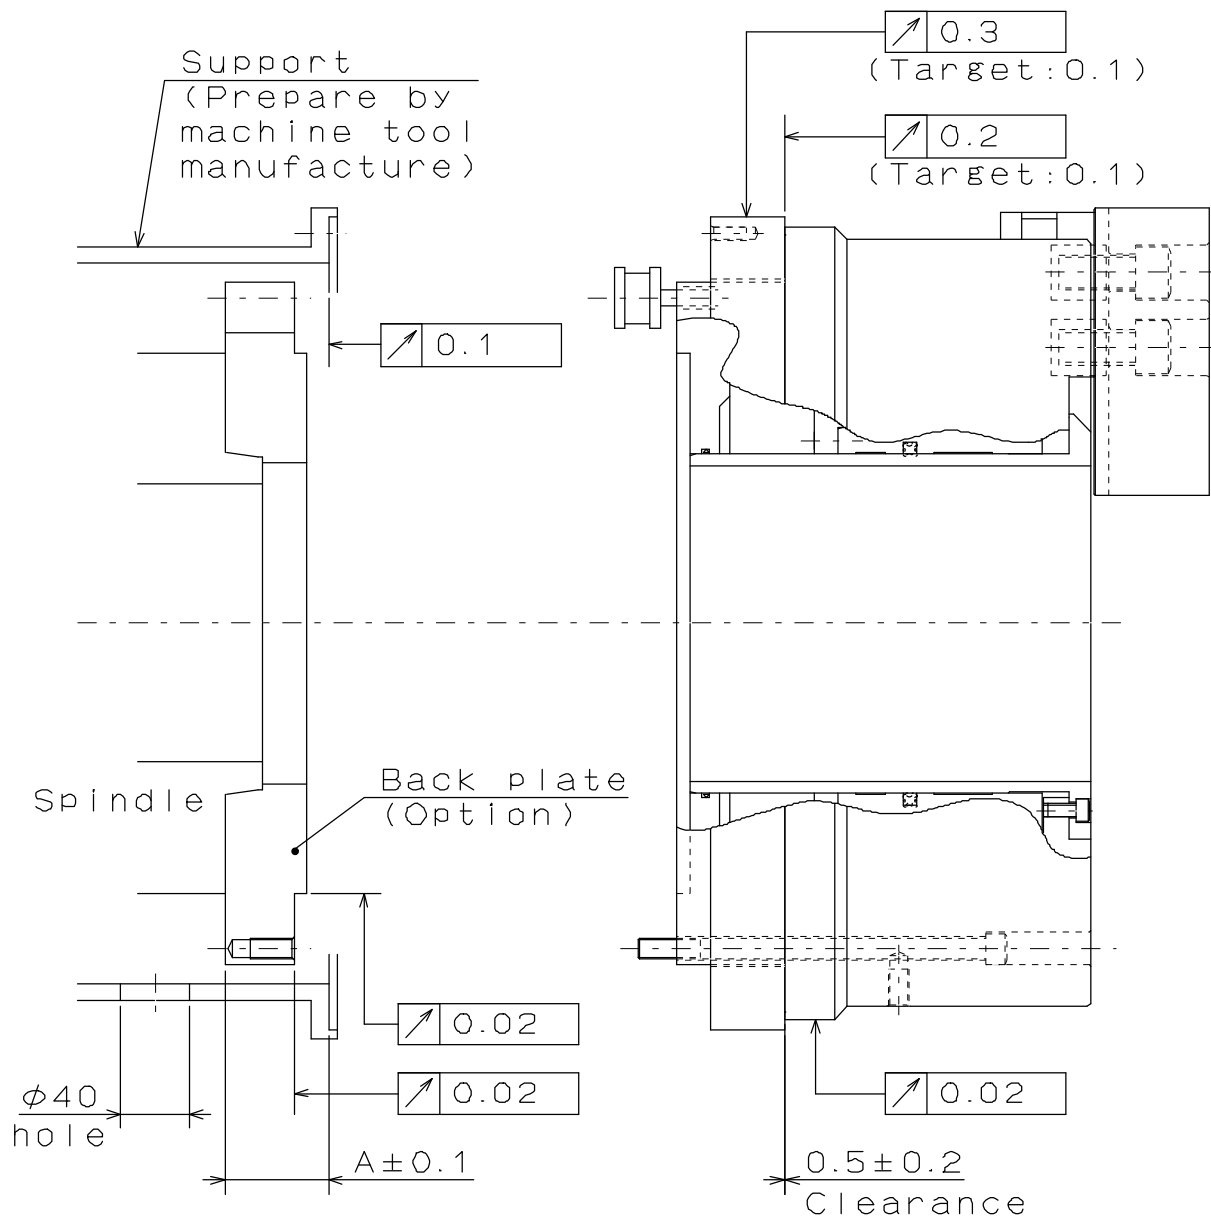

Fig.15
- Run-out of the back plate directly affects the process precision. The end surface run-out of the back plate, spigot joint diameter run-out must be 0.02 mm or less. (Refer to Fig.15)
- Provide a support to secure the air supply ring to the lathe body. Refer to the Delivery Specification for the dimensions. For dimension A in Fig.15, consideration must be given so that the tolerance can be adjusted to within ± 0.1 .
- Provide an air escape hole (over $\phi 40$) underneath the support as shown in Fig.15. This hole escapes the air coming out of a gap between supply ring and chuck. The jaw operating speed slows unless the hole is provided.
- **Adjust the runout occurring when the support and the air supply ring are mounted to be less than the value shown in Fig.15. Check that the clearance between the air supply ring and the body is 0.5 ± 0.2 mm. If the air supply ring comes into contact with the body, seizure may occur during chuck rotation.**